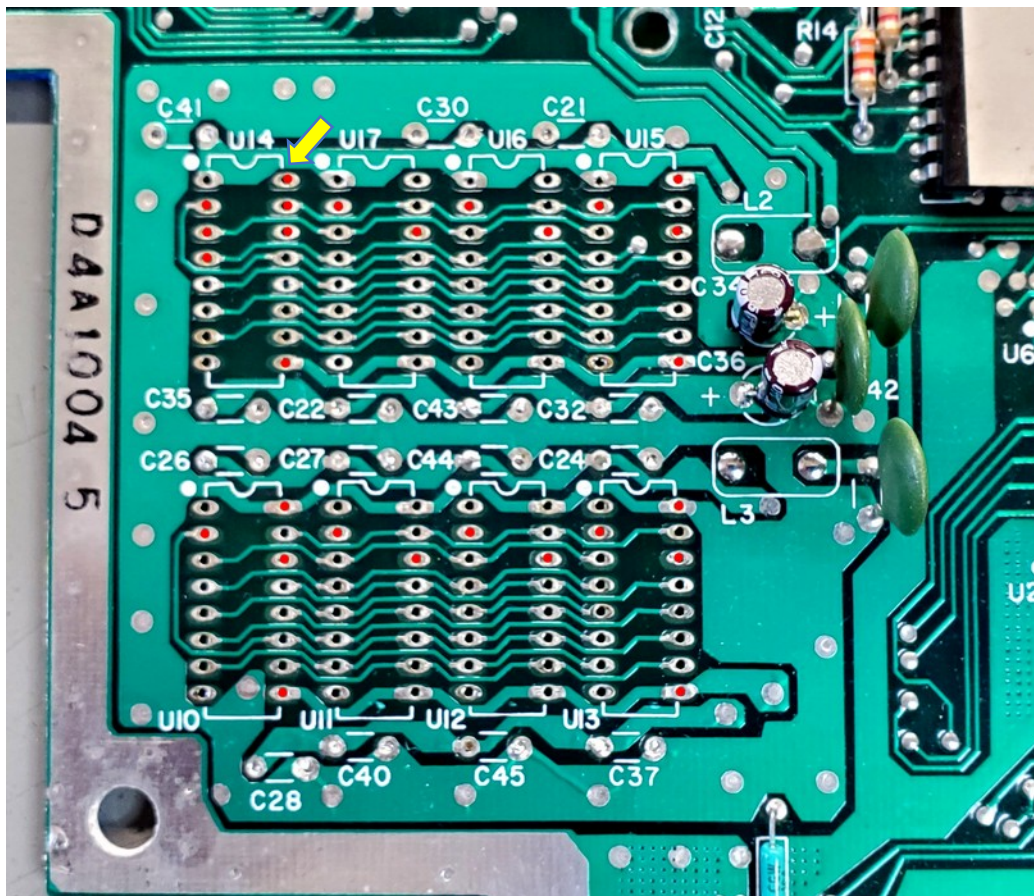

Figure 1
- Inductors: L2 and L3 (See **Figure 1**.)
- Decoupling capacitors: C41, C30, C21, C35, C22, C43, C32, C26, C27, C44, C24, C28, C40, C45, C37 (See **Figure 1**.)
- DRAM: U14, U17, U16, U15, U10, U11, U12, U13 (See **Figure 1**.)
Inspect desoldering work performed and repair any visual issues found or take notes at this point to address later if bodge/repair wires are need to be added after the new DRAM to SRAM converter board is installed. Verify all solder is fully removed from solder pads shown in red in **Figure 1** to ensure room for pins later. Note: Redundant parallel signals are not used by the new
Start the process of installing your new SRAM Converter mod PCB by aligning GND1 pin (above /CAS pin on the top side of the PCB) into the upper right Pin 16 of U14 solder pad hole as the reference of properly aligning the PCB. See arrow in **Figure 1**. Carefully and slowly lower the PCB in place. Do not to rush this process. It may be necessary to wiggle the PCB slightly if any pins are ever so slightly off as you work them all in place as you carefully lowered it. If for some reason a pin will not align, bend it slightly to seat. Lower the PCB as parallel as possible with the ADAM Delta PCB to avoid bending pins and making the installation more difficult.